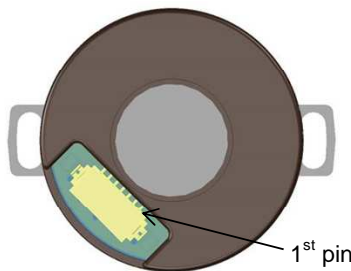

Figure 5: 7pins Connector Pin Assignment
2. Refer to Figure 5 for timing description.